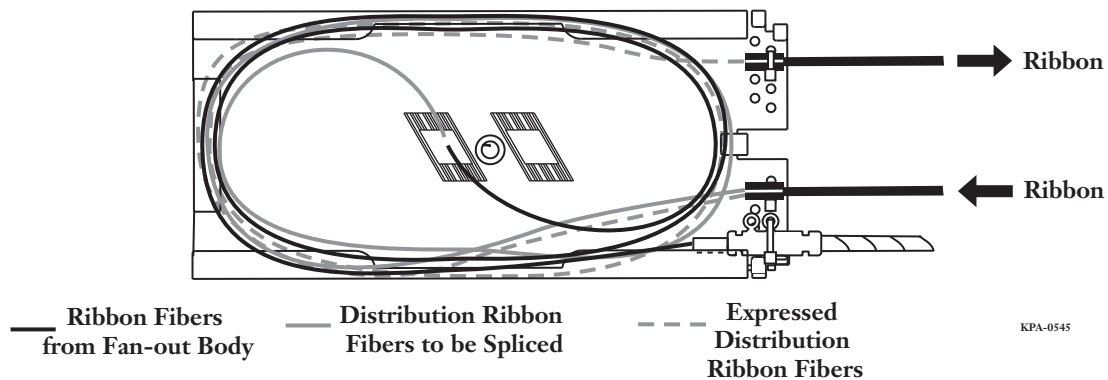

Figure 40
Before splicing fibers, determine the fiber routing configuration you will use in your splicing application. Ribbon fibers may enter the splice tray and have all fibers in the ribbon spliced at that time or stored in the tray for splicing later. It is possible to splice one fiber of a ribbon and express the remaining fibers out of the splice tray. Figure 40 illustrates the recommended routing inside the tray for fibers being spliced and the express routing of the unused fibers.
**Step 2:** Route two loops of ribbon fiber around the inside perimeter of the splice tray as shown in Figure 40 and exit the tray. Mark the ribbon where it exits the tray.